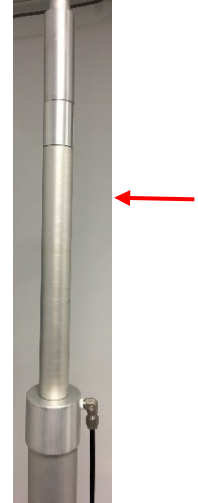

Figure 6. Bypass connection to top of ASC
4. Disconnect the bypass flow line from the top of ASC using a 9/16" wrench (Figure 6).